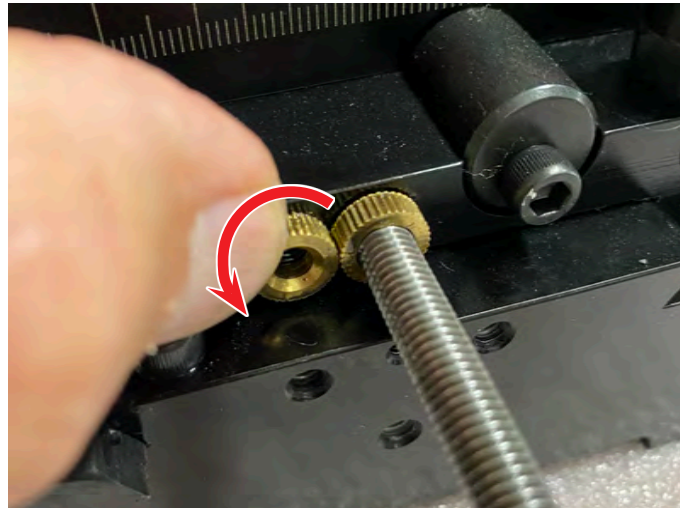

FIGURE 10—After you have aligned the knurls, roll the locking collar down until it aligns with the screw hole.
- K. Place the anti-backlash locking collar next to the anti-backlash lock so the knurls align with each other. Then roll the locking collar down so the center hole aligns with the 8-32 tapped hole in the saddle (see Figure 10).